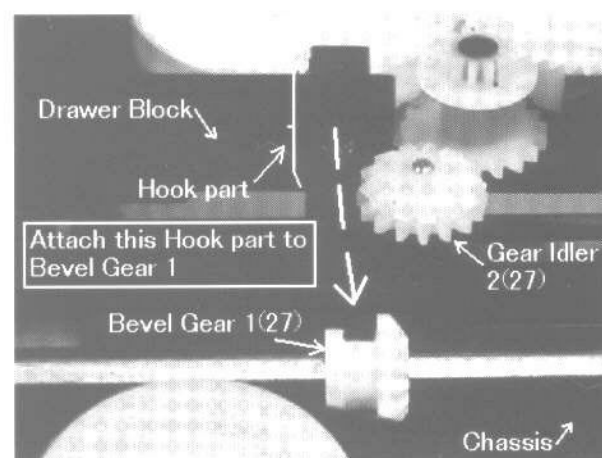

Fig.10
- 8) Move BEVEL GEAR 1(27) to the center of the SHAFT(24).
- 9) First attach the right side hook part of DRAWER block to CHSSIS block and BEVEL GEAR(27) (See Fig. 10). Then move DRAWER block inside as holding its left side up. Fit its left side project into the hole of CHASSIS end.